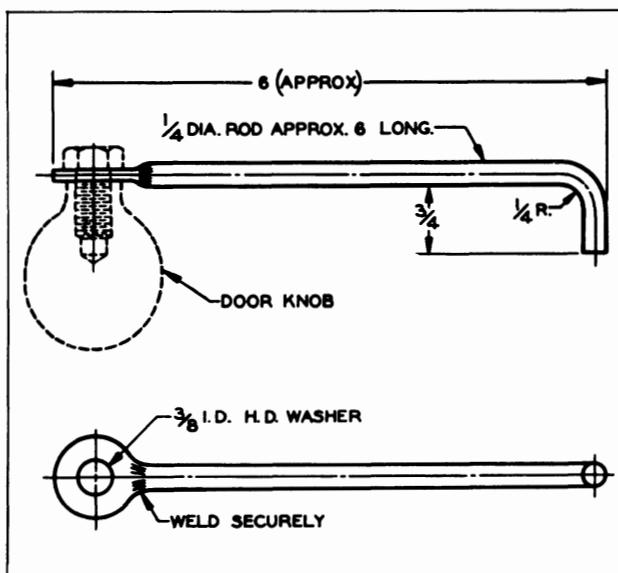
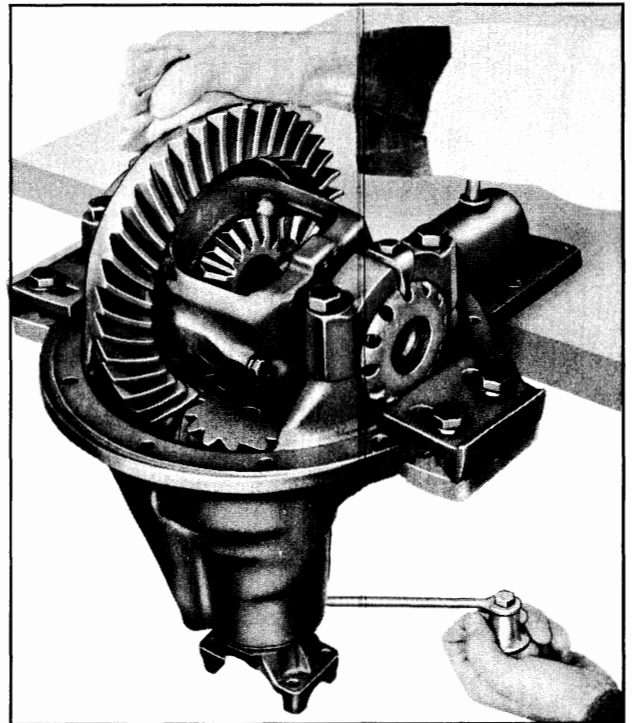

Fig. 4-23 Differential Cranking Tool
Fig. 4-24 Checking Tooth Contact Pattern
3. Insert crank (Fig. 4-23) in companion flange and, while turning, apply pressure to back side of ring gear with hand (Fig. 4-24). A test made without loading the gears will not give a satisfactory pattern.